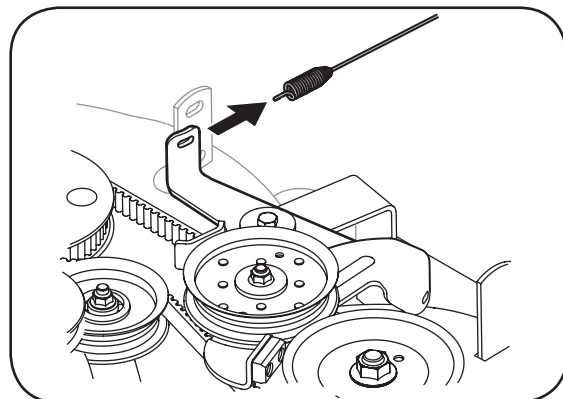

Figure 5-8: Unhook spring.
15. Unhook the drive spring cable from the idler arm assembly, Figure 5-8.